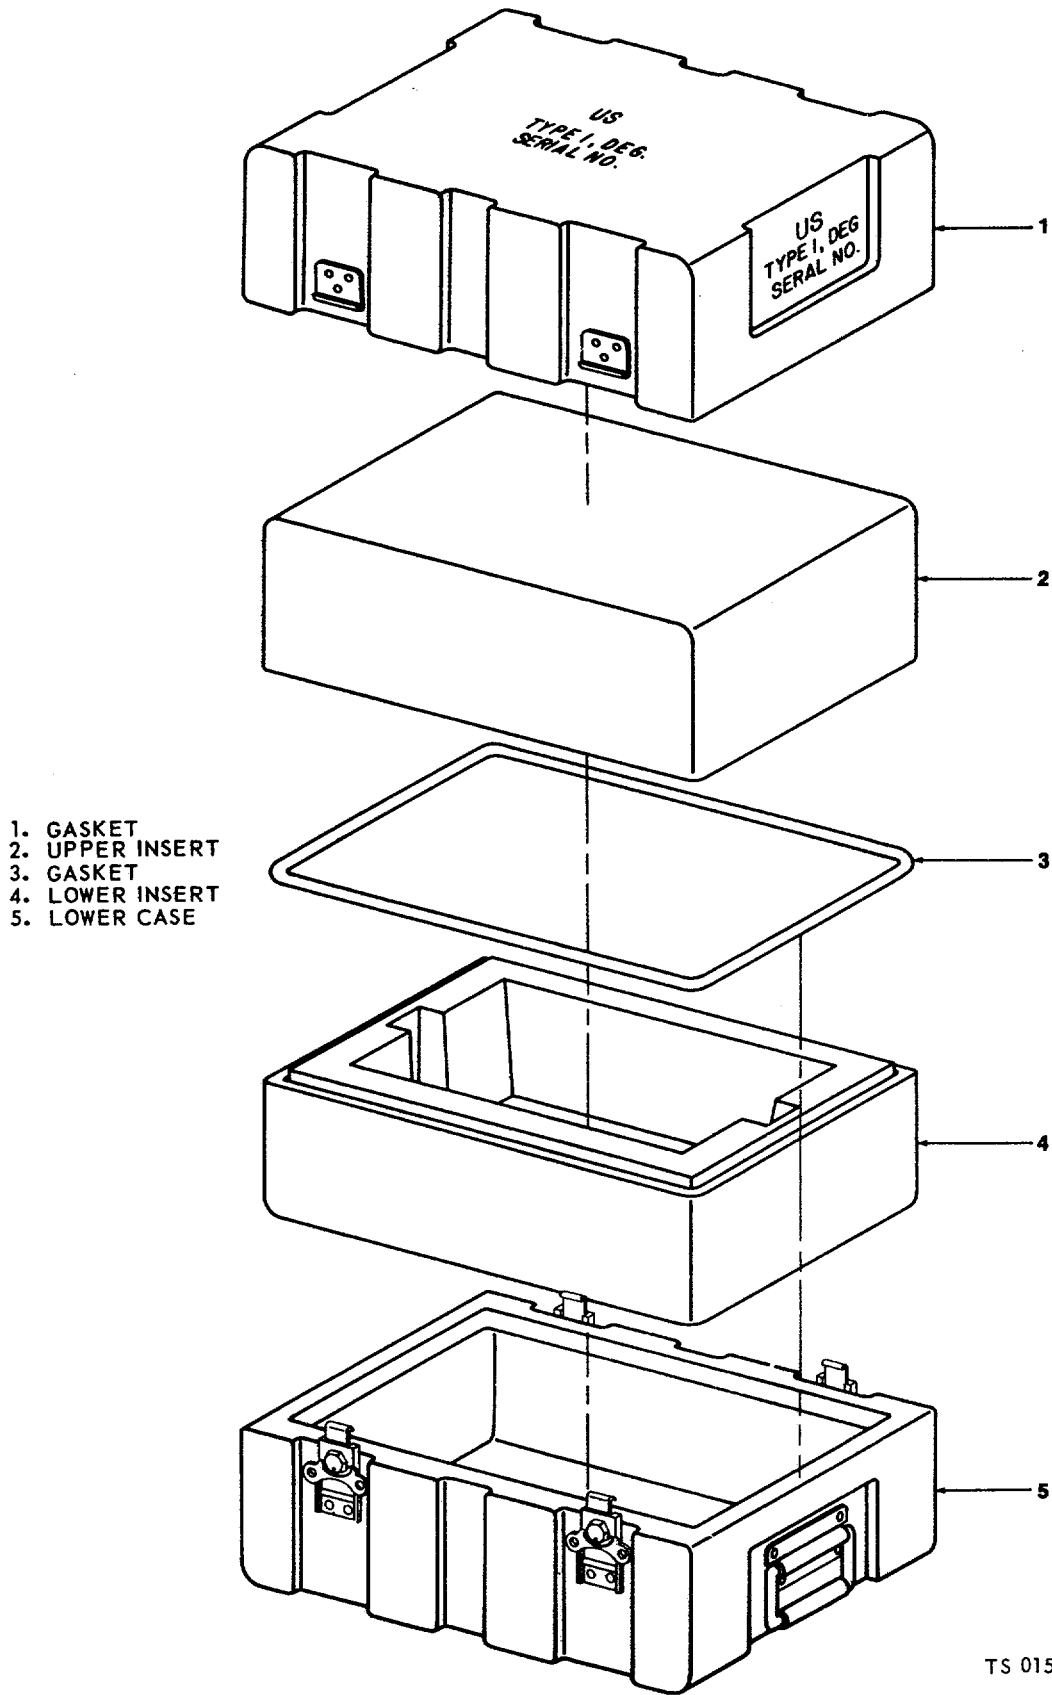

Figure 7-3. Transport case, exploded view.
b. *Disassembly.* Disassemble transport case in the order of the index numbers in figure 7-3.